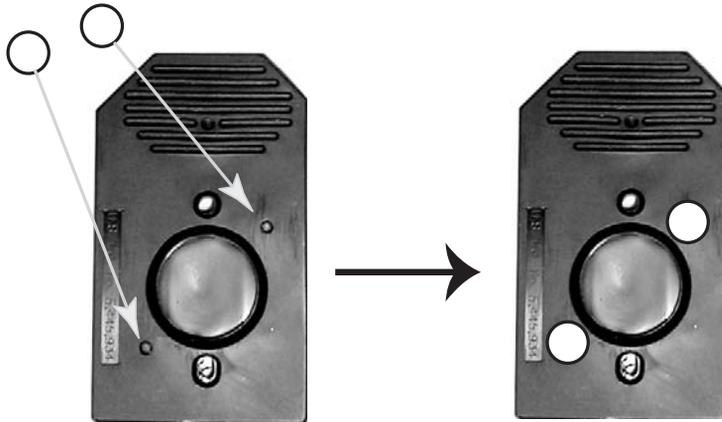

Figure 6.1 Applying Tough-Spots® to Arrays
4. Carefully cover both septa with Tough Spots (See Figure 6.1 on page 258).